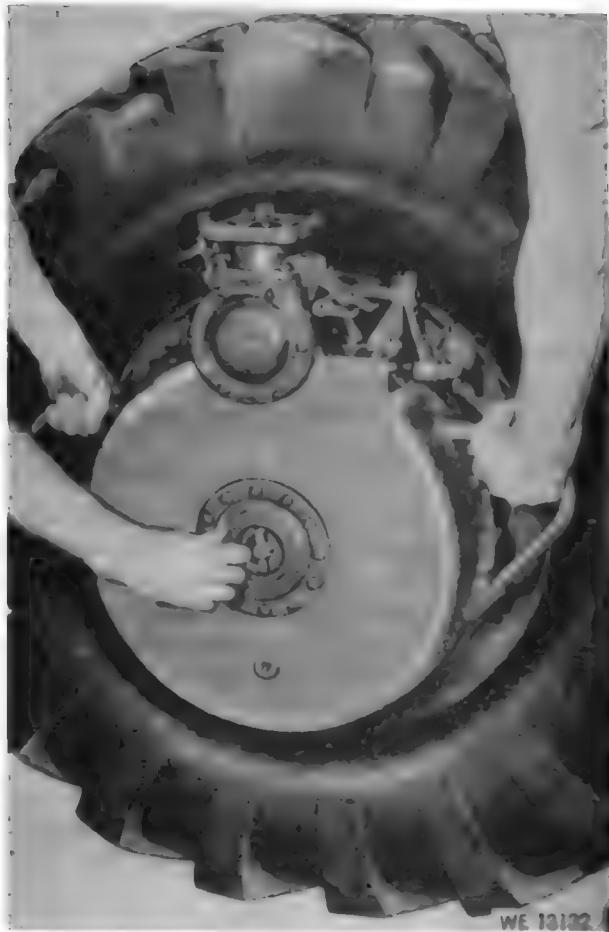

Figure 137. Removing or installing wheel drive unit.
(2) Lift the handle of the fastener pin in the center of the wheel drive unit, unscrew the assembly, and lift the unit away the wheel (fig. 137).
main shaft coupling with the hydraulic motor mounting on the top; push in place. Secure the fastener pin assembly to the wheel spindle (fig. 137). Raise the carriage wheels on the firing jack and rotate the wheel to test the freedom with which it turns, as the axle nut may have become tightened when the fastener lock was tightened. If such is the case, remove wheel drive unit and repeat bearing adjustment in paragraph 117h.